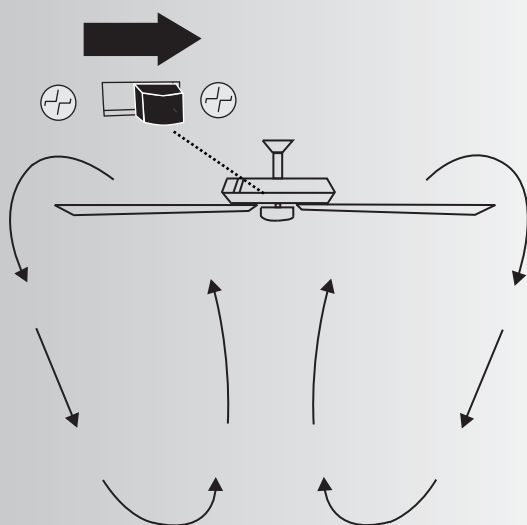

Fig. 24
**Cool Weather Operation:** Reverse (clockwise). An upward airflow moves warm air off the ceiling areas as shown in Fig. 24. This allows you to set your heating unit on a cooler setting without affecting your general comfort.